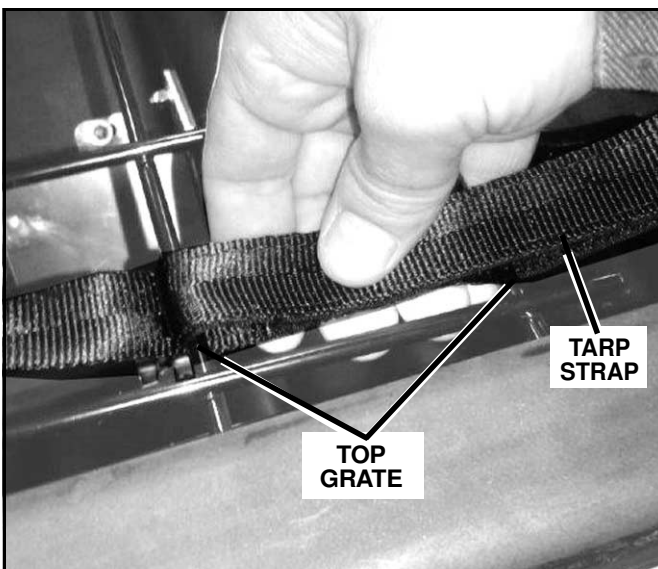

Figure 4
5. Attach the hoop and loop fastener strips on each strap together, over the bars on the grate. (See Figure 4.)